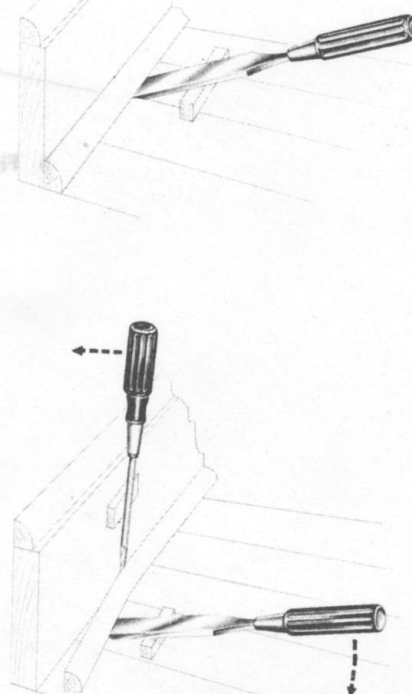

Fig. 1 — Procedure for Removing Molding
2. Then place a screw driver between molding and baseboard. (See Fig. 1.)